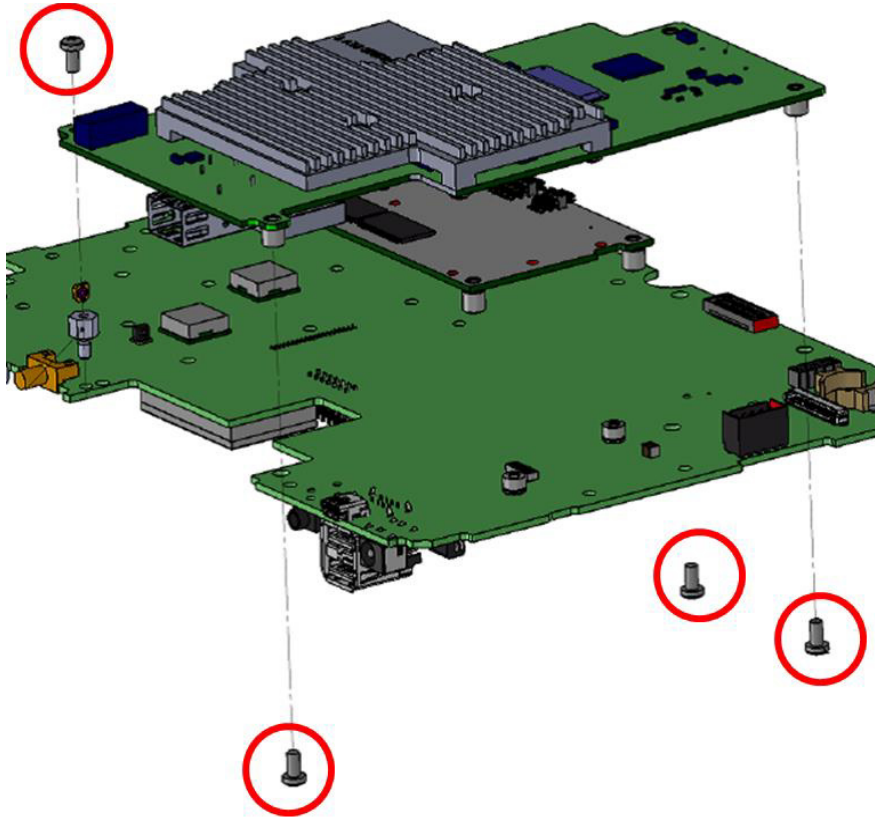

Figure 5-10. Remove Screws Securing Option PCB to Main PCB
4. Remove the screws securing the Option PCB to the Main PCB as shown in Figure 5-10.